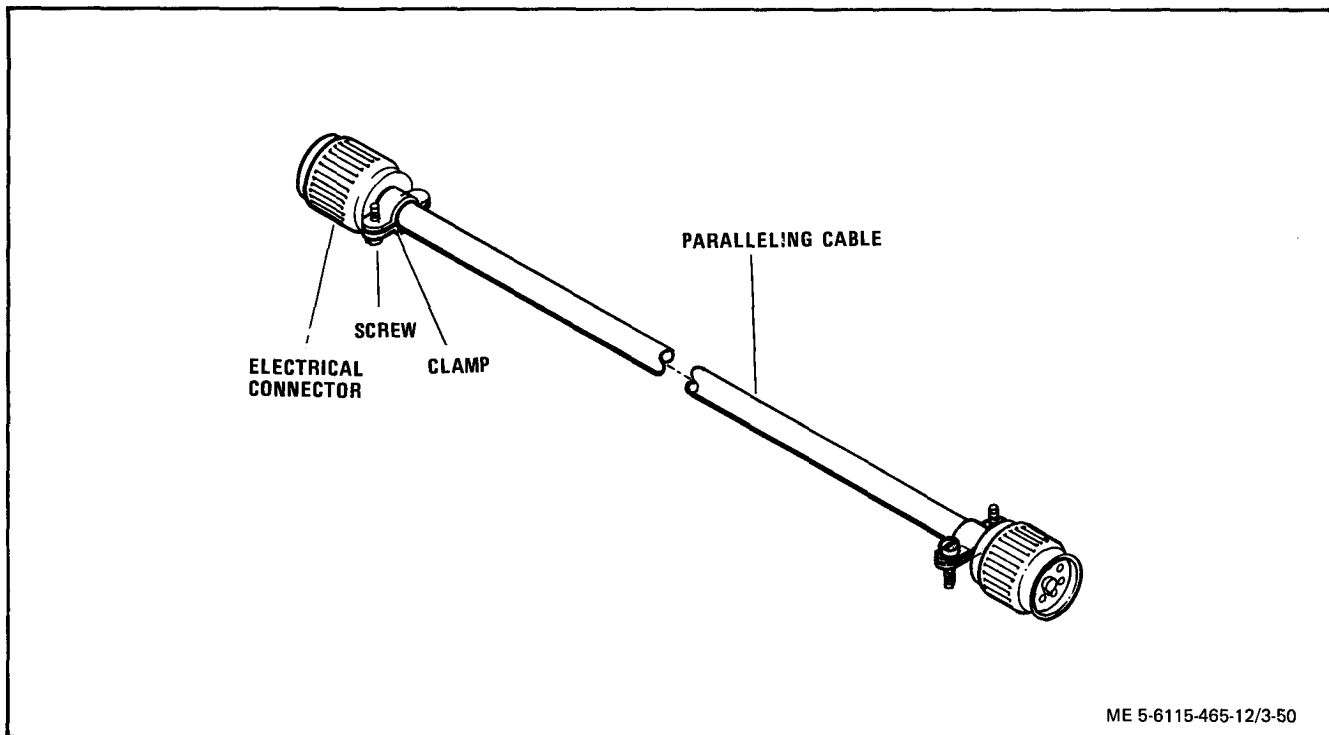

Figure 3-50. Repair of Paralleling Cable
(1) Clean paralleling cable (figure 3-50) with filtered compressed air and an electrician's brush or wipe with a clean, lint-free cloth lightly moistened with an approved solvent.
(2) Visually inspect paralleling cable for chafing, deterioration, and other damage.
(3) Check electrical connectors for bent or broken pins, stripped or damaged threads, cracks, corrosion and other damage.
(1) Loosen saddle clamp screws (figure 3-50).
(2) Tag wires and unsolder connections.